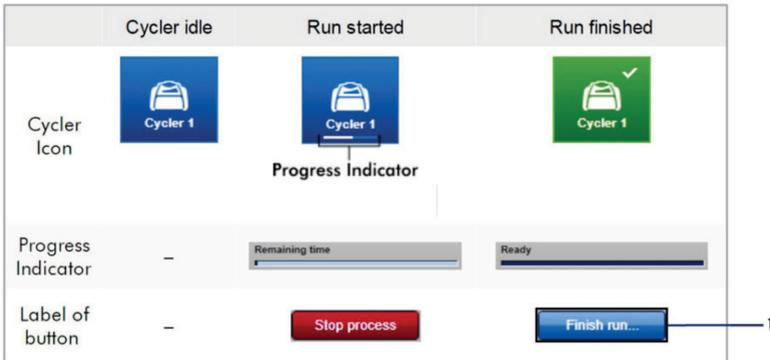

Figure 14. Finishing a run. 1 - "Finish run".
21. After the run is complete, click **Finish run**. The Release and go to approval dialog window appears. (Figure 14).